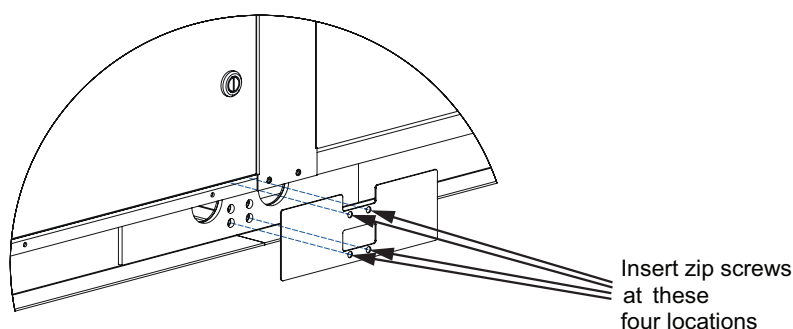

Figure 13 - Cover Plate Installation
3. Align the cover plate with the channel stiffener as shown in Figure 13. Place the cover plate on the channel stiffener, ensuring that the holes in the cover plate coincide with the four blank holes in the stiffener.